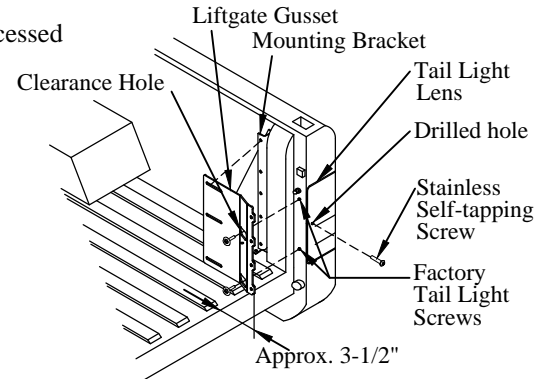

Figure 6: Tail light modification detail (if needed).
Note: This modification may not be needed. Check if the tail light screws can be accessed through the clearance holes in the liftgate gussets (Figure 6).
1. **Remove** the two (2) factory tail light screws from each tail light lens (Figure 6).
2. Carefully **Drill** a 9/64" hole through each tail light lens and internal sheet metal (Figure 6).